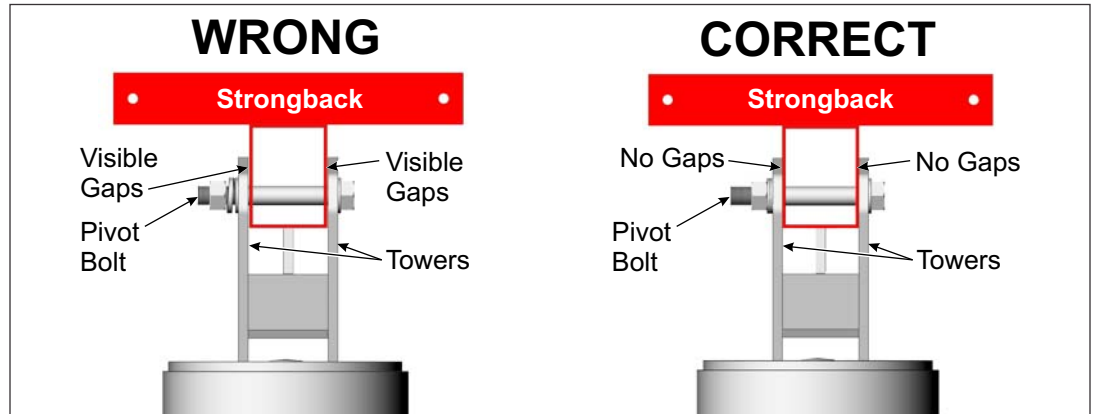

Figure 7-3: Tighten and Torque the Pivot Bolt
- C. Re-tighten the Pivot Bolt. After changing the tilt angle and tightening the Support Bar hardware, the Pivot Bolt must be re-tightened. The Pivot Bolt cannot be left loose - the Mounting Sleeve Vertical Towers must be firmly clamped to the sides of the Strongback, eliminating any gaps between the Vertical Towers and the Strongback. **Torque to 125-150+ ft.-lbs. for 3/4" hardware or 330-350 ft.-lbs. for 1" hardware.** (See Figure 7-3)